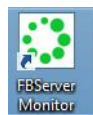

Figure 4-46: FB Server Monitor Desktop Shortcut
- **ForteBio FB Server module on a local host computer** - Double-click the FB Server Monitor desktop shortcut (Figure 4-46):